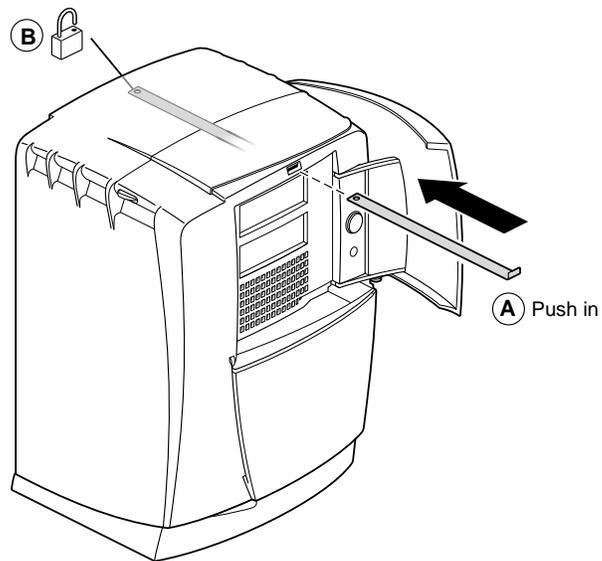

Figure 1-17 Inserting the Lockbar
3. Slide in the lockbar (A), as shown in Figure 1-17.
4. Secure it with a lock (B).